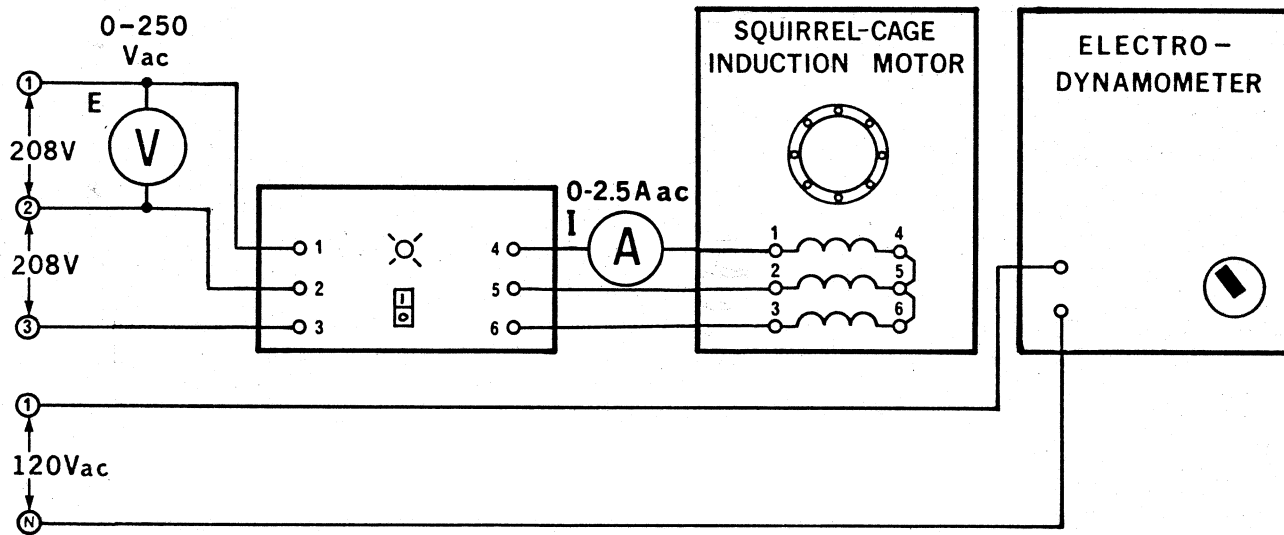

Figure 14-2.
- 3. Using your Three-Phase Full-Voltage Starter, Four-Pole Squirrel-Cage Induction Motor, Electrodynamometer, Power Supply, AC Ammeter and AC Voltmeter, connect the circuit shown in Figure 14-2. Couple the motor to the electro-dynamometer with the timing belt.